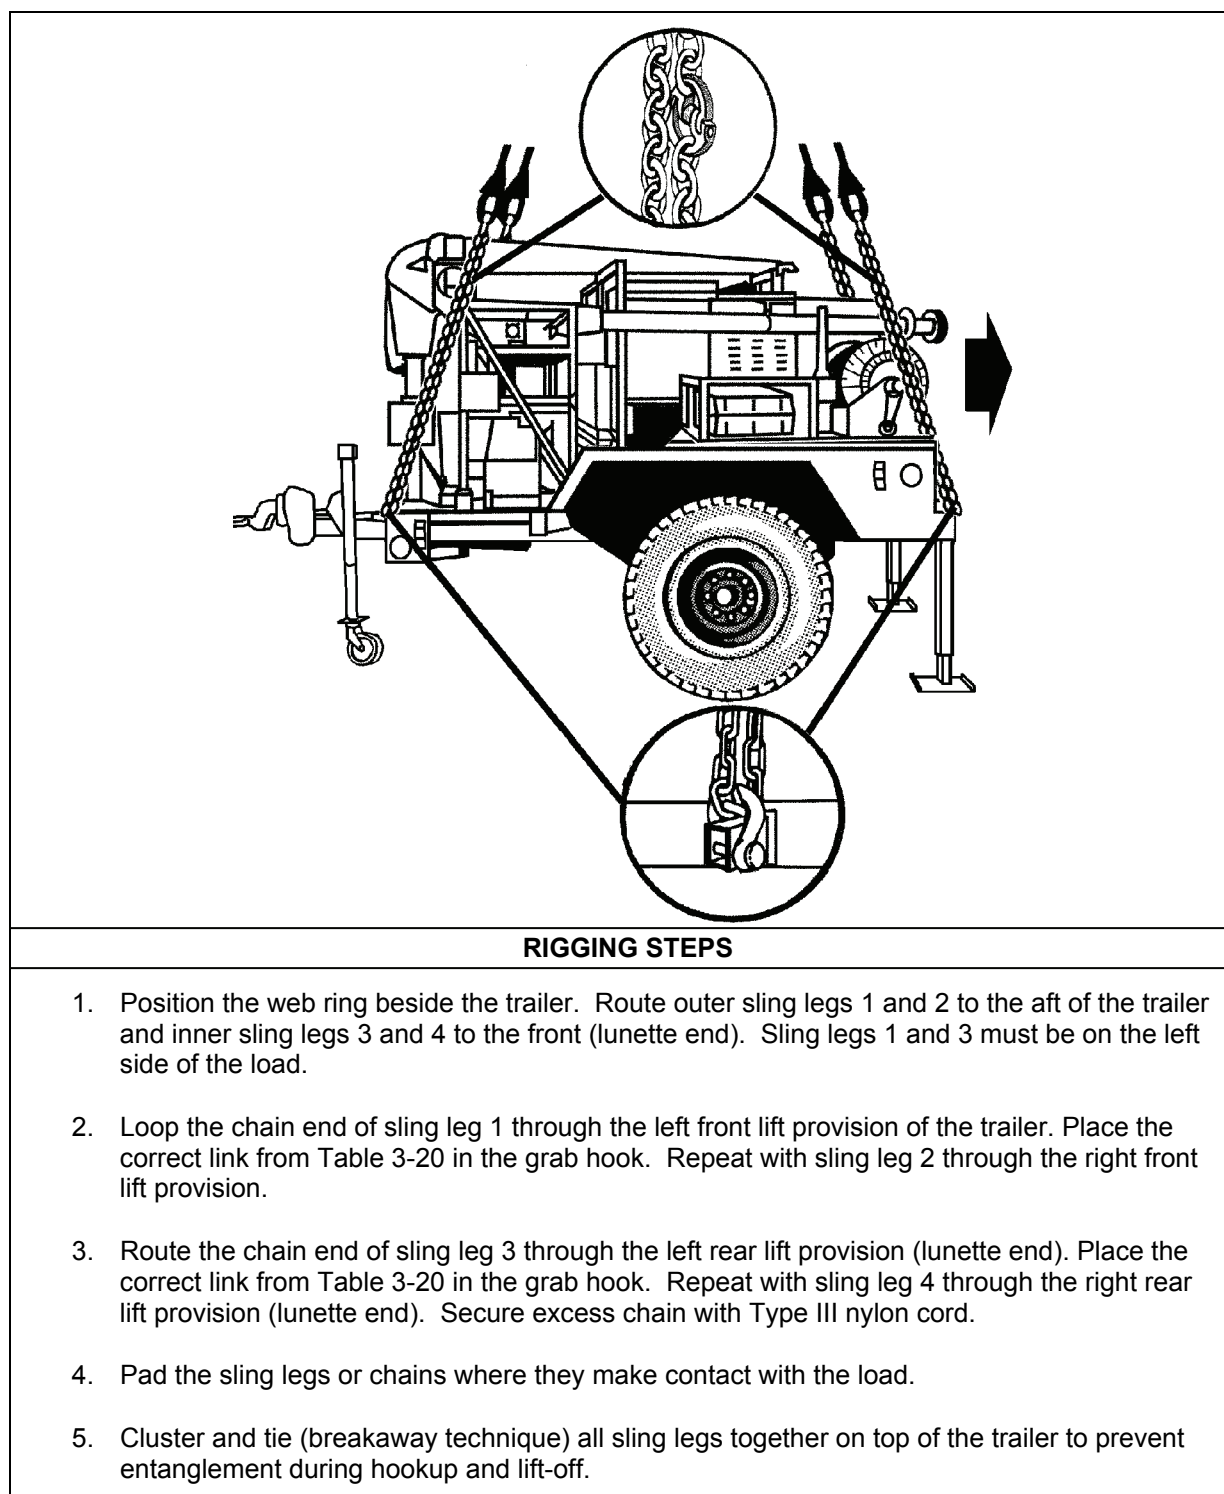

Figure 3-20. HMT Trailer with Remote Landing Site Tower
- **Rigging.** Rig the load according to the steps in Figure 3-20.